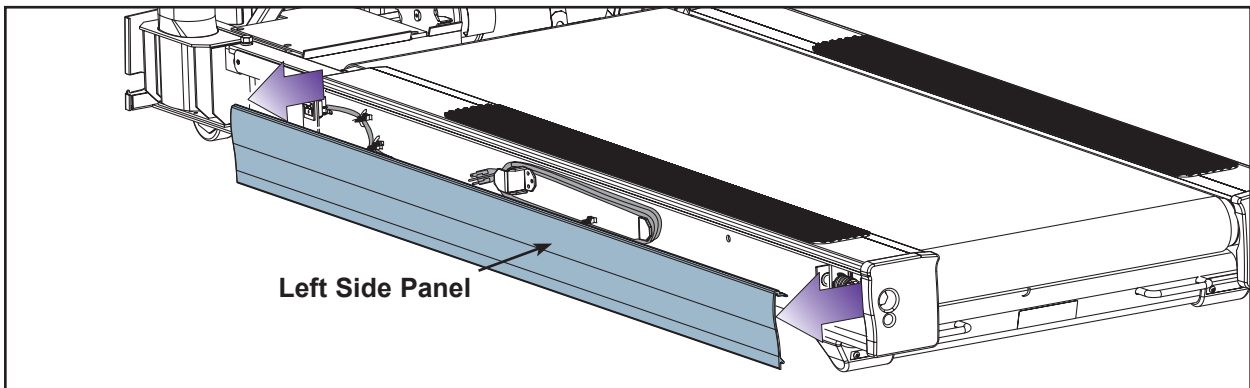

Figure 9
A. Pull the left side panel away from the base. See Figure 9.